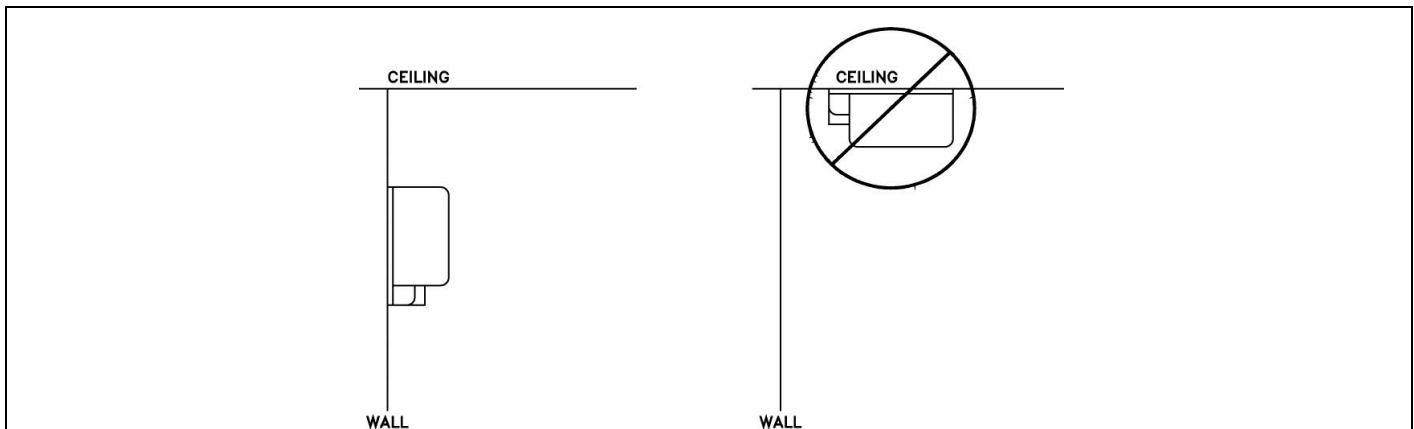

Figure 5: Pressure Transducer Mounting
- Install pressure transducer in desired location (typically above ceiling). The transducer must be mounted on a wall in the correct position per Figure 5 (screws not provided). **DO NOT** mount pressure transducer to duct or other vibrating surface.
- Connect 115 VAC line voltage HOT wire to BLACK wire on transformer and NEUTRAL wire to WHITE wire on transformer (Figure 5).